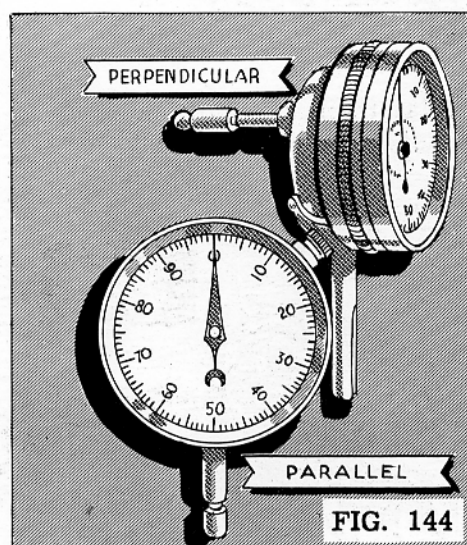

FIG. 144
Dial indicators (Fig. 144) are graduated to read either to one-thousandth part of an inch ( $1/1000''$ ) or to one ten-thousandth part of an inch ( $1/10,000''$ ) with the operator estimating the value when the pointer is not exactly on the line representing the basic dimension. Four practices for setting the vise with an indicator are given.
9. Select an indicator with the contact shaft perpendicular with the dial (Fig. 144). The dial faces upward and can be conveniently read from the operating position.